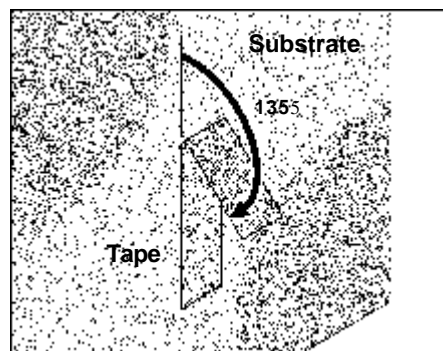

Figure 1. Pull Off Masking Tape at a 135° Angle
2. Remove the tape by pulling it back upon itself at a 135° angle using a rapid, firm pull. See Figure 1.